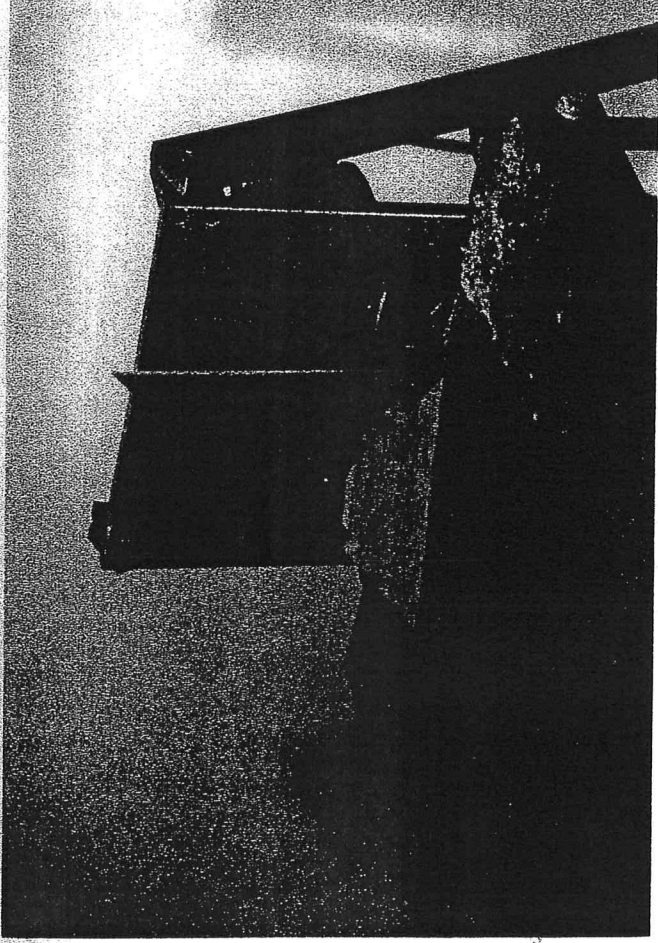

Fig. 27
7. Assemble joint and check fit. (fig. 27)